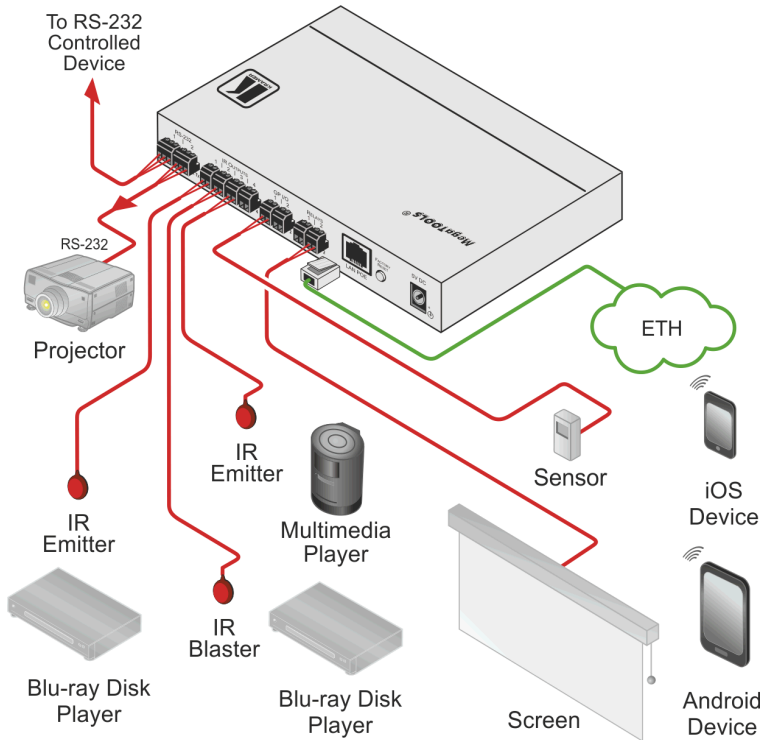

Figure 6: Connecting the FC-28 Ethernet Controller
To connect the FC-28 as illustrated in the example in Figure 6:
6. If the **FC-28** cannot be powered by a PoE power source, connect the device to the power adapter and connect the power adapter to the mains electricity (not shown in Figure 6).